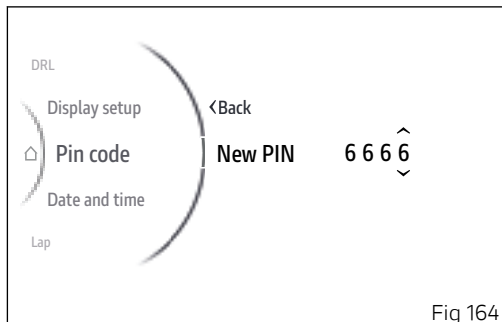
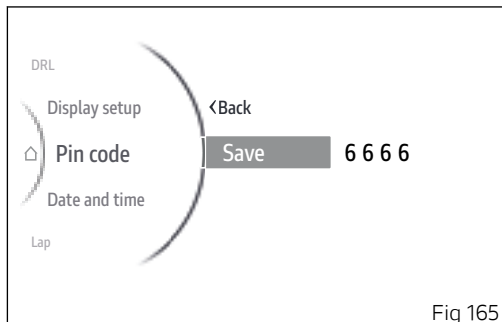

Fig 164
Fig 165
- The values displayed above and below the digit indicate that the number can be changed from 0 to 9 using buttons (1) and (2).
- Press ENTER (3) to confirm and move on to the following digit.
Once the last digit has been confirmed (Fig 164), "Save?" is displayed. (Fig 165). Press ENTER (3) to confirm, "Saved" is then displayed for a few seconds. The instrument panel returns to the previous screen displaying "Modify PIN" instead of "New PIN".